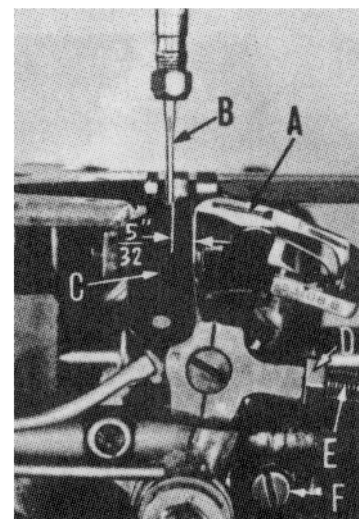
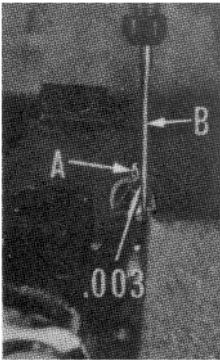

Fig. 5
Fig. 6
With the zig-zag motion at the end of its stroke to the right, set the looper (A, Fig. 5) so the distance from the center of the needle (B) to the point of the looper is $\frac{5}{32}$ inch, when the looper is at its farthest position to the right. Looper gauge No. 21225-5/32 (C) can be used advantageously in making this adjustment. If adjustment is needed, loosen nut (D) (it has a left hand thread) and also loosen nut on right end of connecting rod (E), turn connecting rod forward or backward to obtain $\frac{5}{32}$ inch and retighten both nuts.
The looper is set correctly in line with the feed when there is .003 inch space between its point (A, Fig. 6) and the rear of the needle (B) as the former is ascending on the right side. If adjustment is needed, loosen screw (F, Fig. 5) and move looper toward or away from needle as required and retighten screw when .003 inch space is obtained.